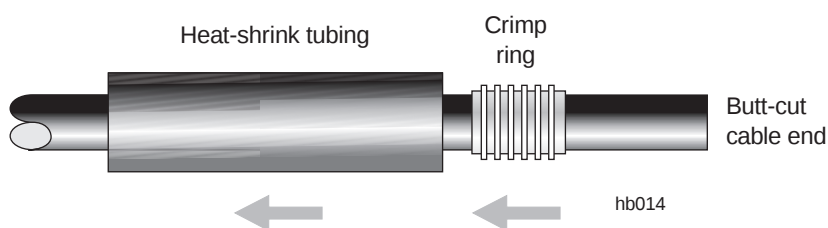

Figure C-2 Slipping the crimp ring and heat-shrink tubing onto the cable
3. Slip the crimp ring and a piece of heat-shrink tubing (HNS9007488-0005) onto the cable, as shown in figure C-2.